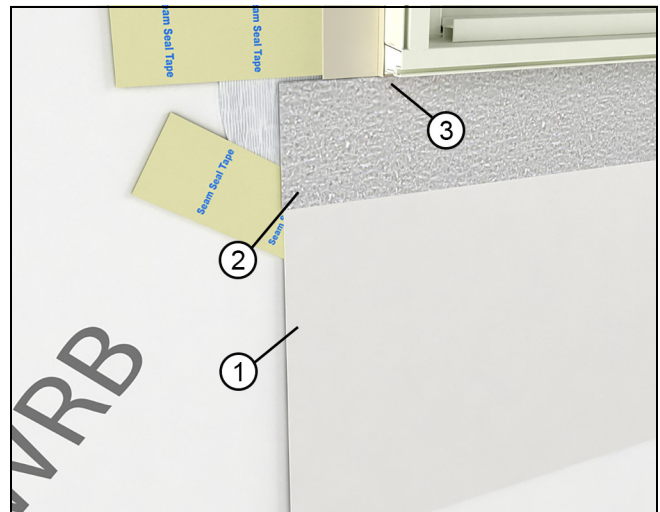

Figure 11
5. Optional Skirt: Install an optional "skirt" in applications with exposure to wind driven rain/climate. Use flashing material or a 12" (305) strip of WRB and attach to the sill of the window with seam seal tape or flashing tape. See Figure 11.